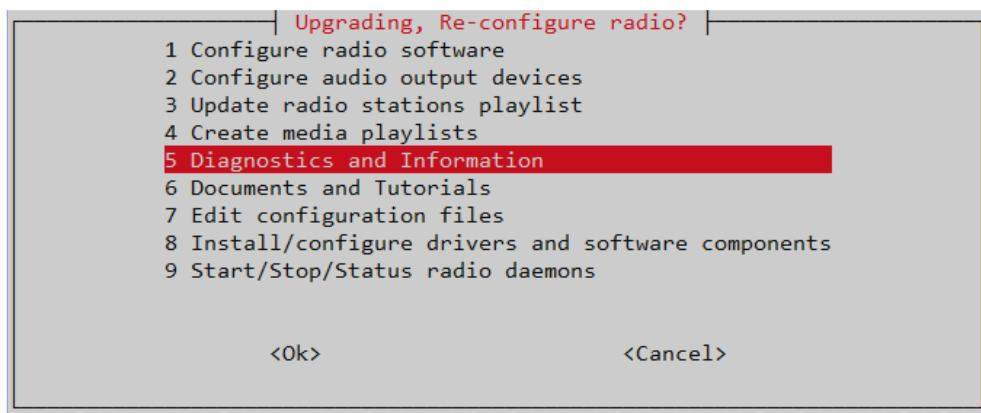

Figure 243 Diagnostics and Information menu
- Select option **1 Run the radio in diagnostic mode (nodaemon)** shown in *Figure 243 Diagnostics and Information menu* on page 205.
- Select option **2 Test rotary encoders** from the diagnostics menu. shown in *Figure 243 Diagnostics and Information menu* on page 205.
- Select option **2 Test rotary encoders** from the diagnostics menu shown in *Figure 243 Diagnostics and Information menu* on page 205.